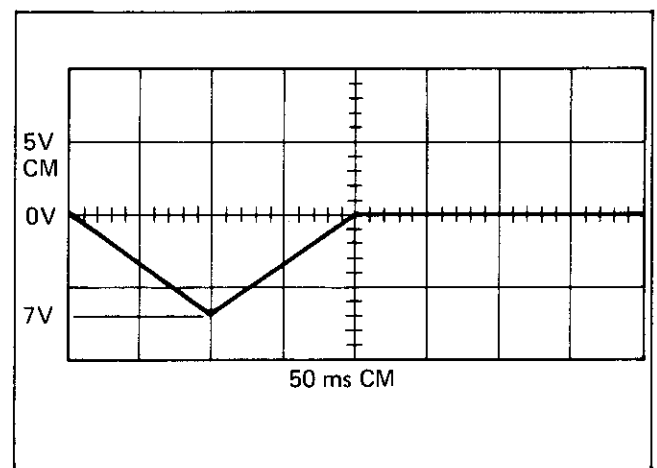

Figure 4-5. A/D Integrator Output
5. Move the oscilloscope input to TP2. The scope presentation should be as shown in Figure 4-5.